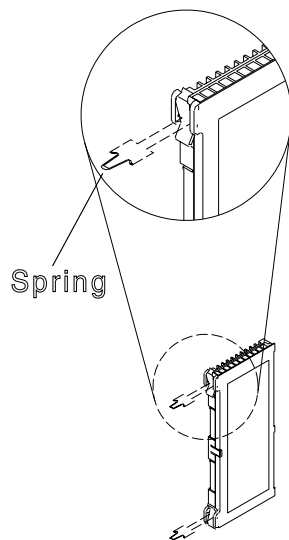

Figure 4-46. Shipping Springs
- b. If present, remove the **shipping springs** that secure the extractor levers by squeezing them together. Refer to Figure 4-46.
- b. Remove the **shipping springs** (if present) that secure the extractor levers by squeezing them together. Refer to Figure 4-46 on page 4-65.